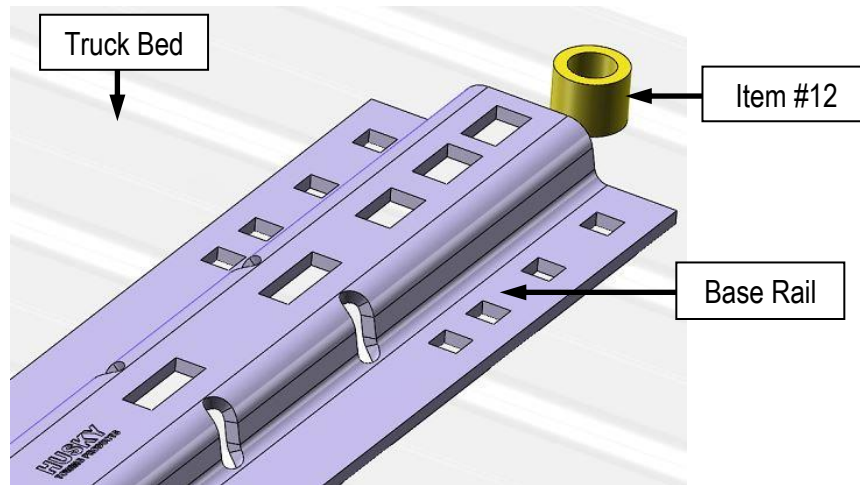

Figure 2
2. Position the bed rail assembly in truck bed as shown in Figure 2. When hitch is correctly positioned in the bed and the bed rails are parallel, mark four attachment points on the truck bed using the 5/8" square holes indicated on the layout in Figure 2. Check below the bed before drilling holes to see that all wiring, brake lines or other obstructions are moved out of the way and will not be contacted by the drill. Move the hitch assembly out of the way and drill four 5/8" diameter attachment holes down through the bed at the previously marked points.